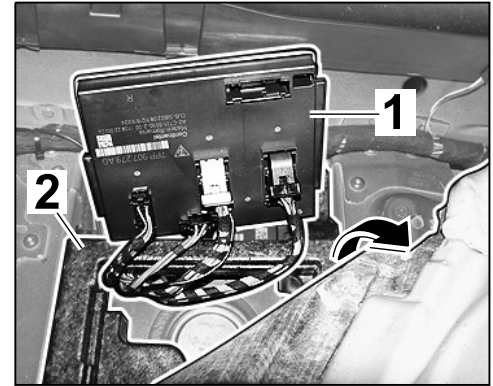

Figure 33
- 4.6.2 Fold the carpet ⇒ *Figure 33* **-arrow-** aside.